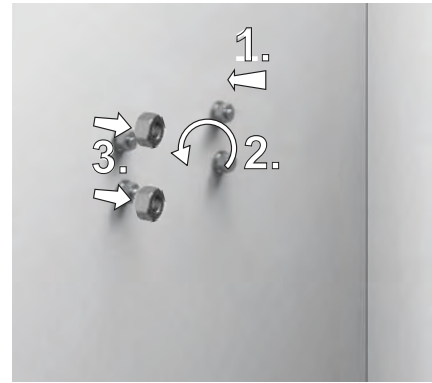

Fig. 22: Prepare expansion bolts for bracket ⑥
3. Plug the expansion bolts into the mounting holes and then remove the nuts and washers (Fig. 22).